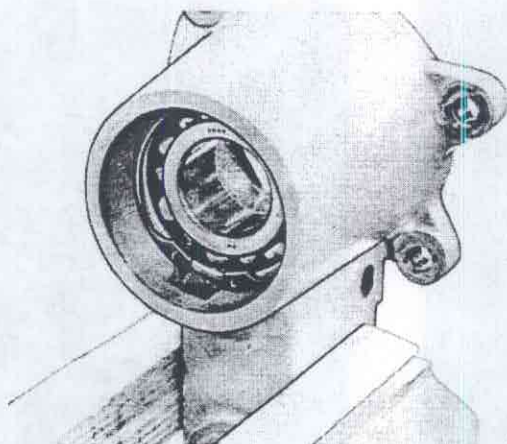

Fig. 43-164. Pressing out bearing
8. Remove the circlips, Fig. 43-164, for the bearing and press out the bearing with 2267.